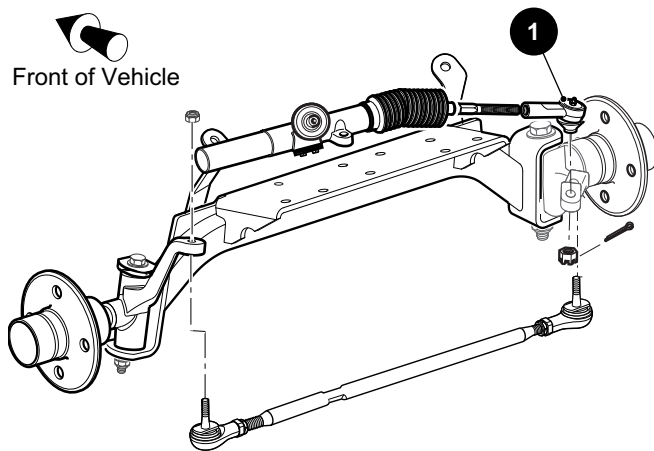

Figure 2 Lubrication Points
Apply grease to the rack ball joint (1) as indicated in the Periodic Service Schedule (Figure 2).
2. Do not use more than three (3) pumps of grease in any grease fitting.